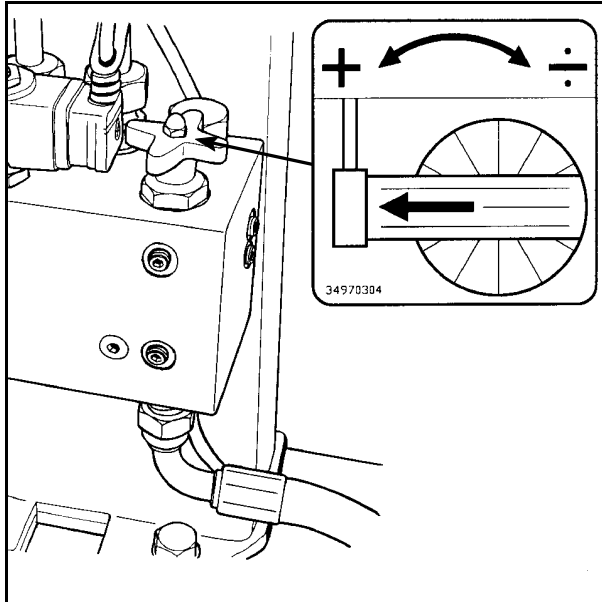

Fig. 8-1
8.1 Start the tractor, let it run at approx. 1000 revolutions per min. lift the machine clear off the ground. The oil flow to the packing machine is adjusted with the use of two control valves which are placed on the valve block situated behind the machine's "neck". [see fig. 8-1]
8.2 The control valve on the right-hand side, is for adjustment of the wrapping arm speed. (See fig. 8-1).